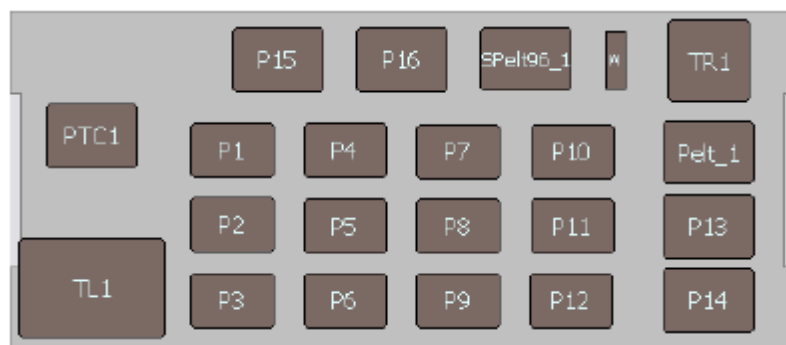

Figure 19 Empty deck positions.
- Figure 19—Location names of empty deck positions
^[1] See Figure 19 for empty deck positions.
- b. Discard the distribution plates (PCR) (for locations of the distribution plates see Figure 19) and multichannel tip boxes.